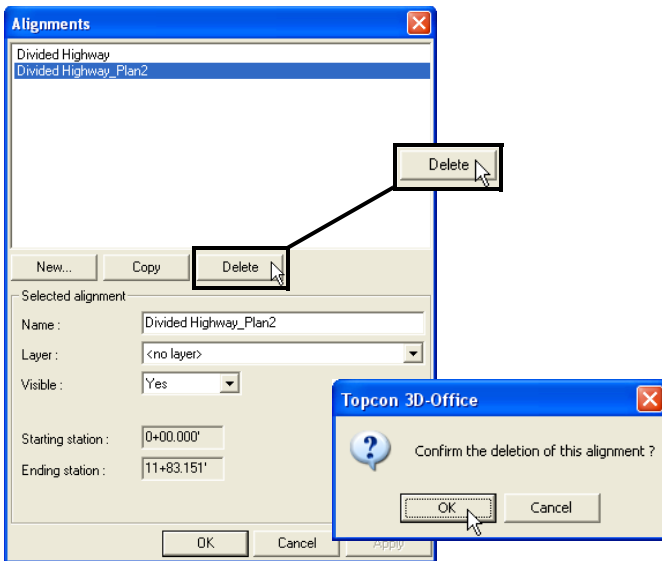

Figure 6-17. Delete Alignment
1. On the *Alignments* dialog box, select the alignment to delete and click **Delete** (Figure 6-17).
2. Click **OK** to confirm the deletion (Figure 6-17).